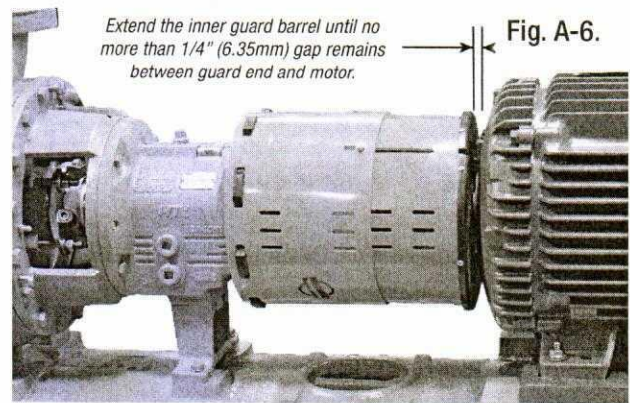

Fig. A-6.
5. Extend the inner telescoping barrel (motor end) until it meets the surface of the motor. Ensure that there is no more than 1/4" gap between guard and motor as shown in Fig. A-6. Non-removable guide pins provide a friction fit and hold extended guard in place.